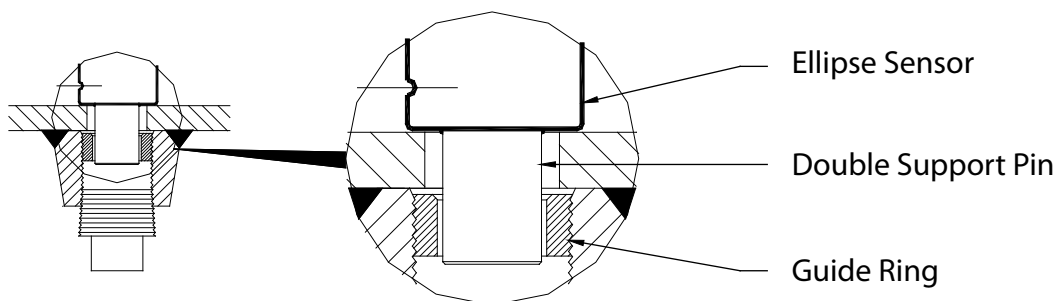

Figure 5: Double support pin
- Install the BHR Ellipse sensor through the two holes. Make sure that the double support pin passes through the guide ring. See Figure 5.